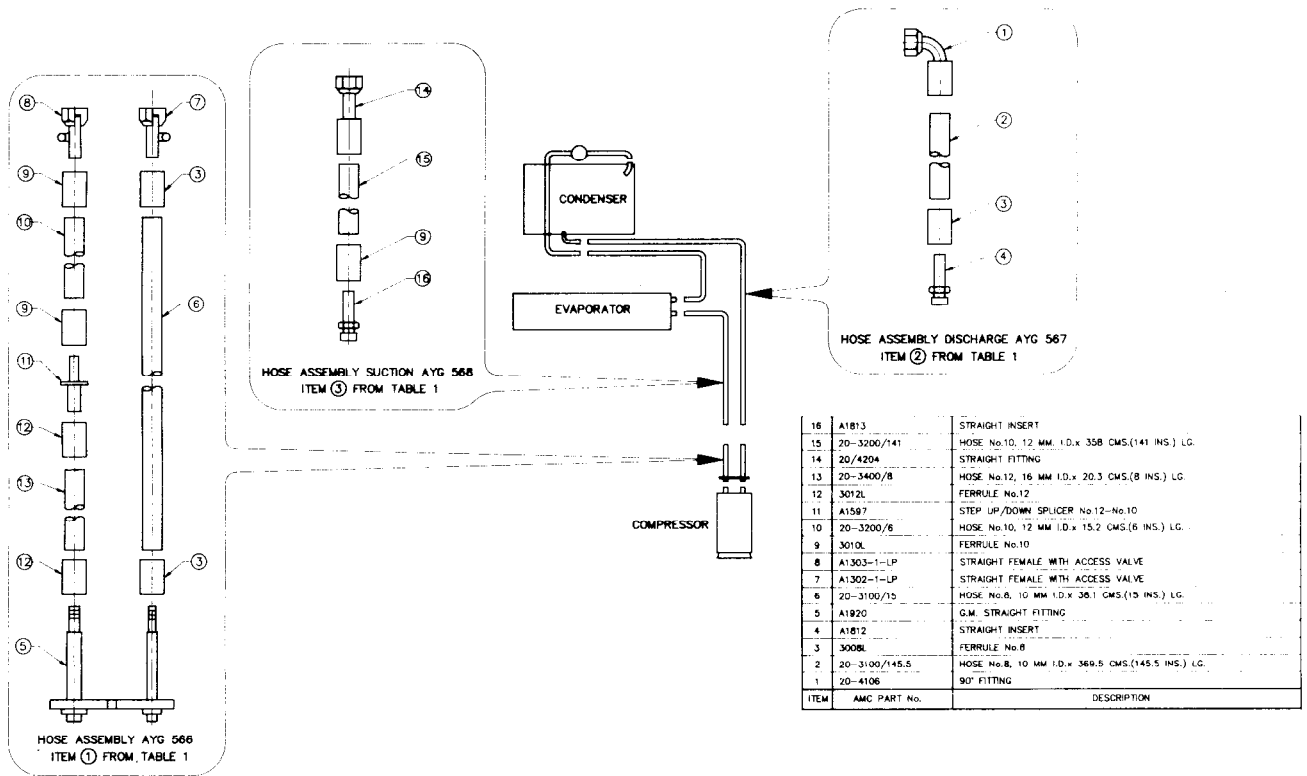

Figure 1 - New Hose Design
2. The three new hose sections are shown in Table 1 and are to be fitted using the procedures detailed in paragraph 8. The manufacture of individual hose sections under local arrangements is authorised provided that the components shown in Figure 1, or equivalent, are used.